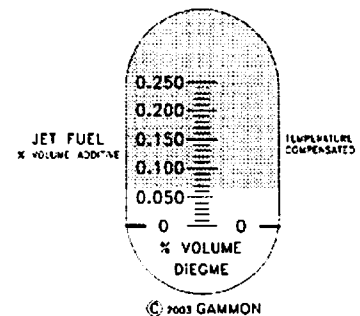

Figure 3
Step 7. Using the same technique as in Step 3, transfer two or three drops from the aluminum dish to the refractometer prism; close the cover and observe the position of the shadow line. Fig. 3 shows a typical test result for fuel containing 0.065% DiEGME.